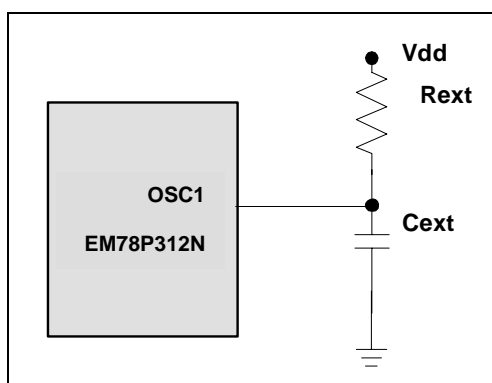

Fig. 5-33 External RC Oscillator Mode Circuit
The circuits shown in Fig. 5-33 use an external RC to produce the reset pulse. The pulse width (time constant) should be kept long enough for VDD to reach minimum operation voltage. This circuit is used when the power supply has slow rise time. Because the current leakage from the /RESET pin is about $\pm 5\mu\text{A}$, it is recommended that R should not be greater than 40K. In this way, the /RESET pin voltage is held below 0.2V. The diode (D) acts as a short circuit at the moment of power down. The capacitor C will discharge rapidly and fully. Rin, the current-limited resistor, will prevent high current or ESD (electrostatic discharge) from flowing to pin /RESET.